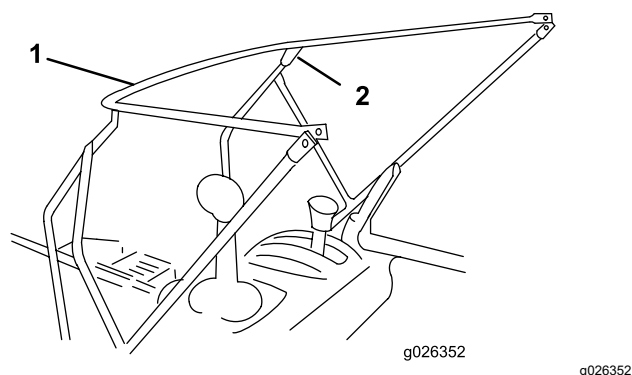

Figure 3
5. Position the horizontal frame inside the upper ends of the mounting brackets (Figure 3).